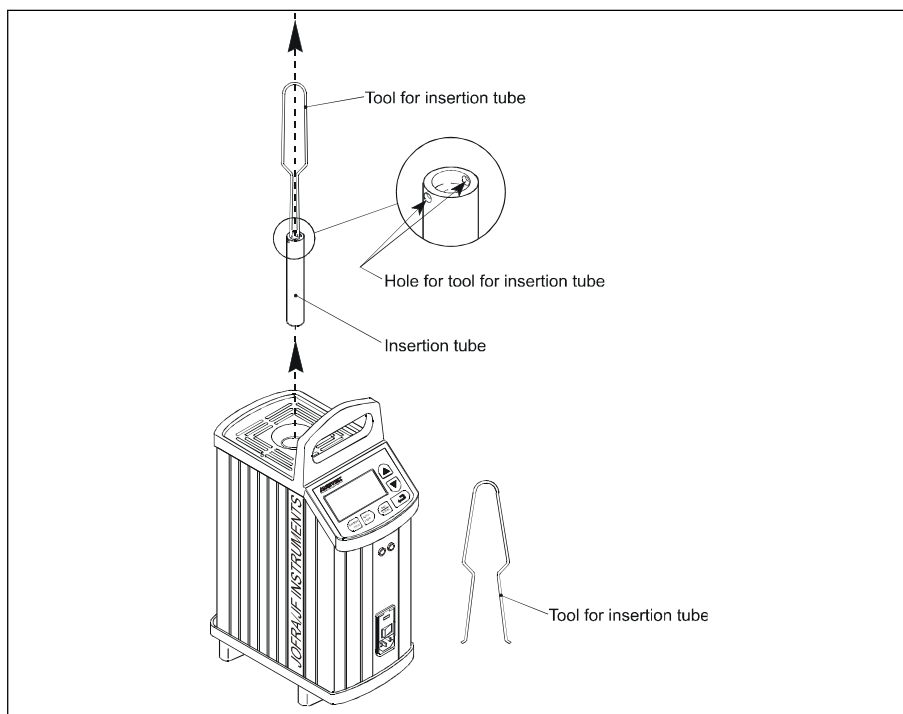

Fig. 2
- ② Remove the insertion tube from the calibrator using the tool for insertion tube as shown in Fig. 2.
- ③ Switch off the calibrator using the power control switch.